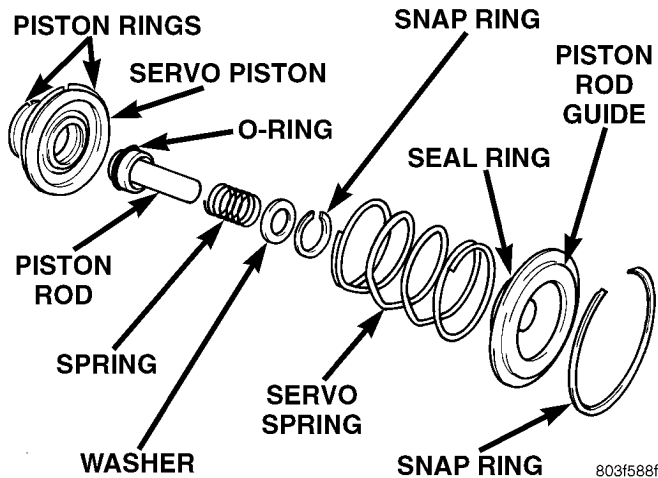

Fig. 137 Front Servo
- (1) Remove seal ring from rod guide (Fig. 137).
- (2) Remove small snap ring from servo piston rod. Then remove piston rod, spring and washer from piston.
- (3) Remove and discard servo component O-ring and seal rings.
- (1) Lubricate new O-ring and seal rings with petroleum jelly and install them on piston, guide and rod.
- (2) Install rod in piston. Install spring and washer on rod. Compress spring and install snap ring (Fig. 137).
- (3) Set servo components aside for installation during transmission reassembly.